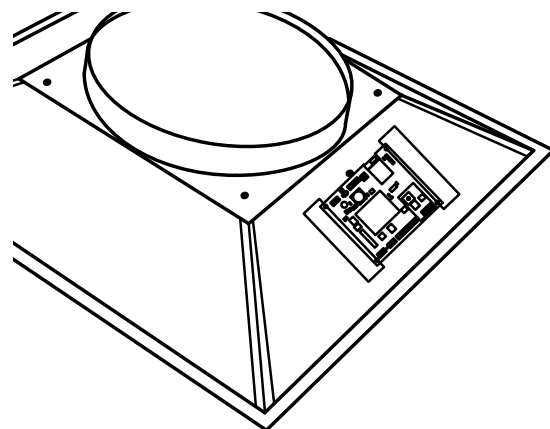

Fig. 3
6. Mount the wireless diffuser board using the adhesive backed mounting strips on the back side of the diffuser housing just below the $\frac{5}{16}$ " hole in the housing (see Fig. 3).